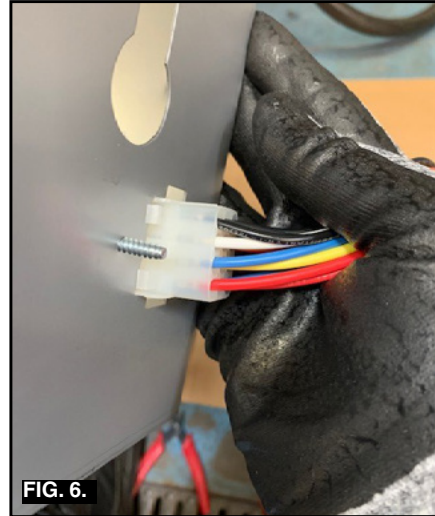

FIG. 6.
2. Place the 12-pin plug in the control box from the back. The plug is shown from the inside the control box. Note: narrow key in upper right corner of plug. (Fig. 6.)